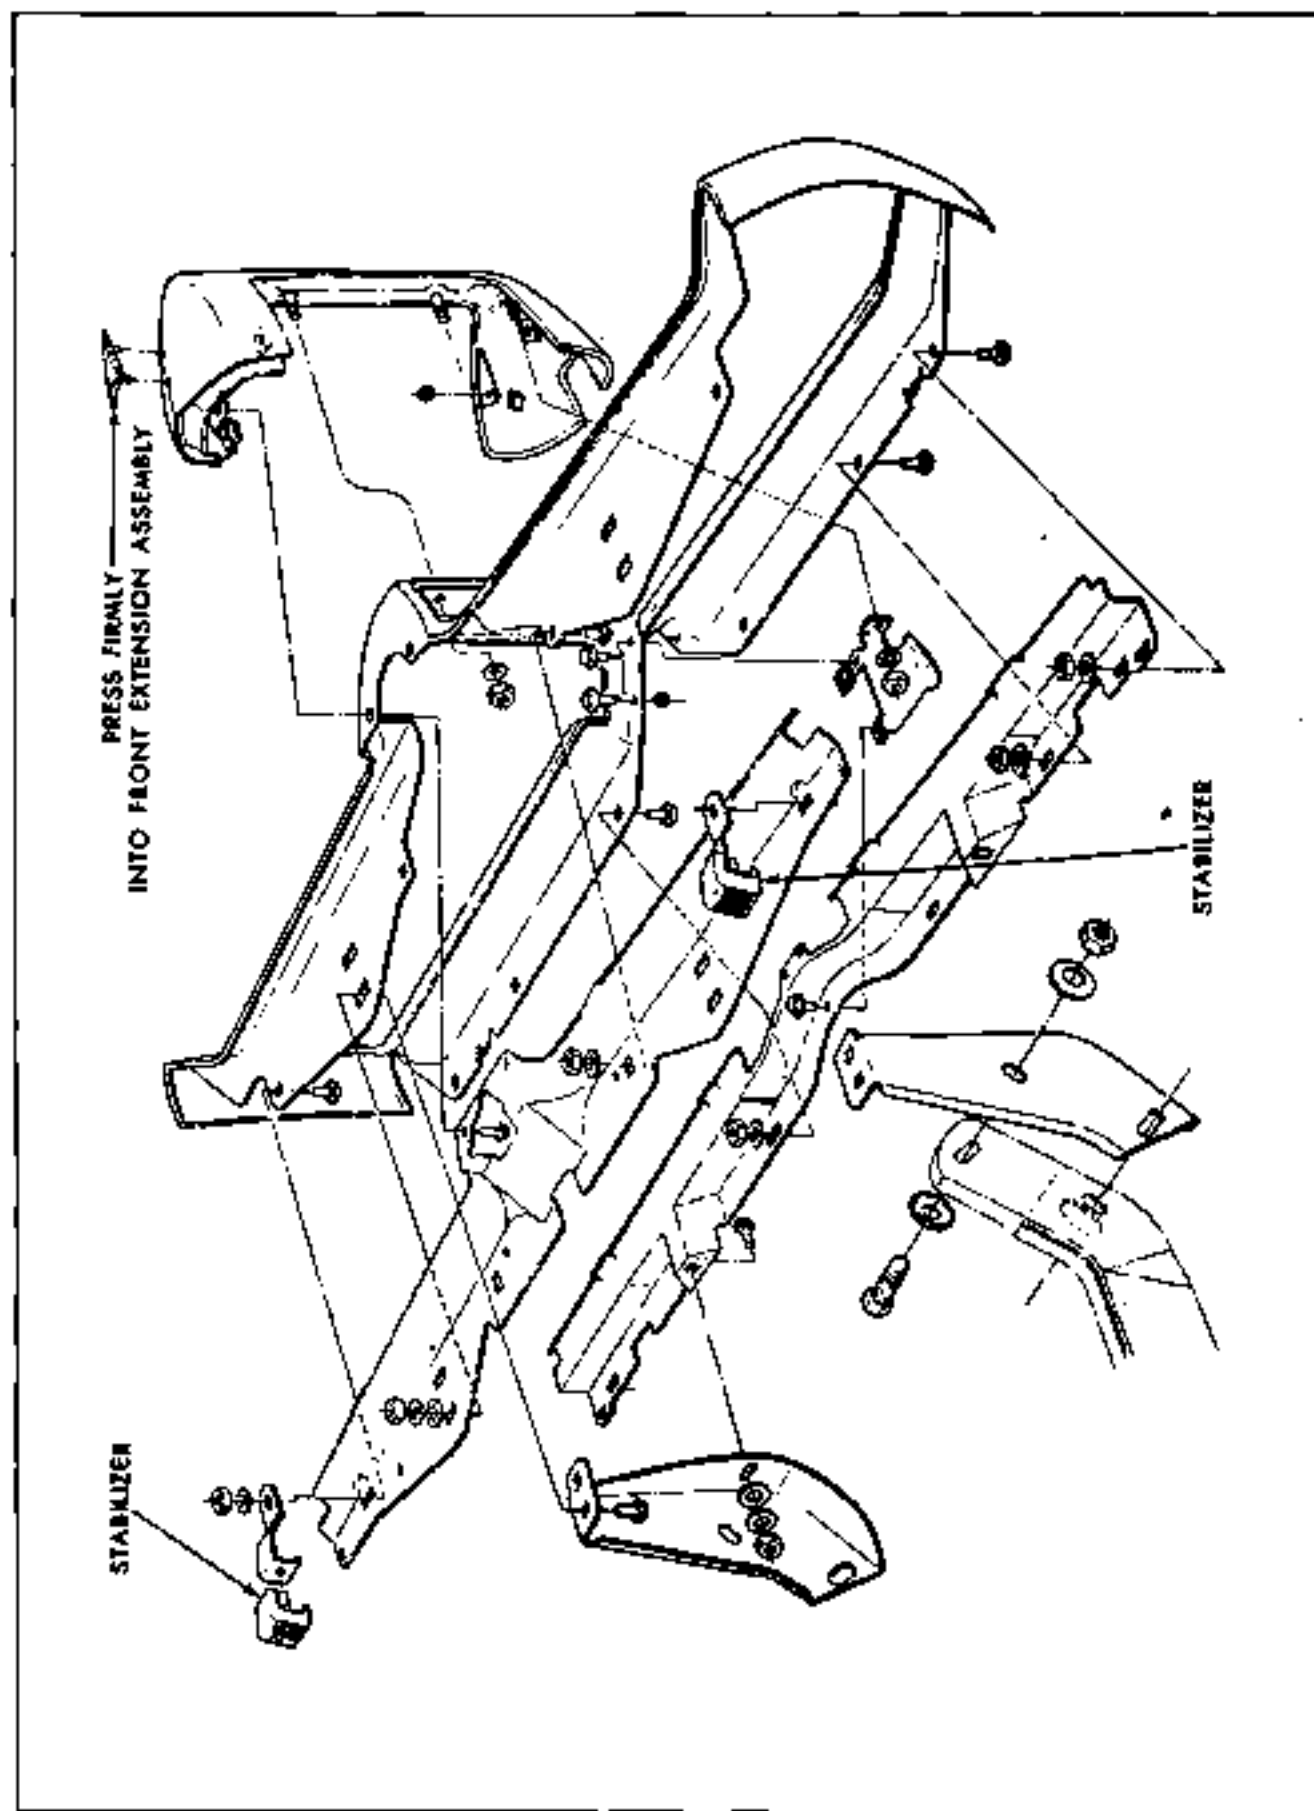

Fig. 14-1 Pontiac Front Bumper
REMOVE PONTIAC BUMPER (Fig. 14-1)
4. Loosen front bumper stabilizers (Fig. 14-1).